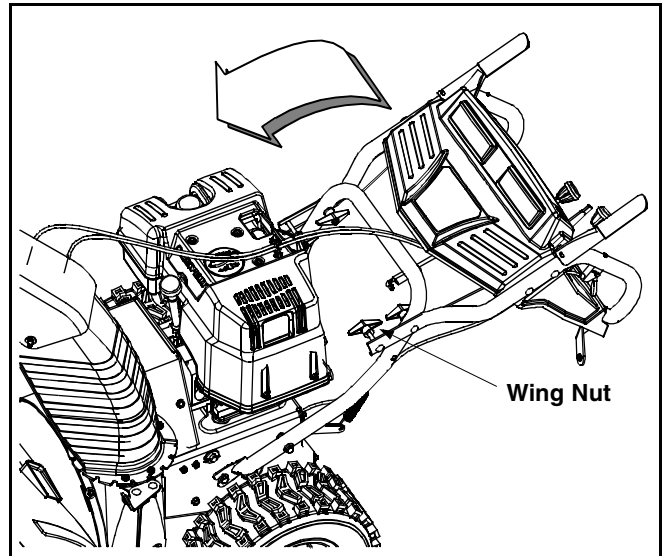

Figure 2
- Remove the **lower** plastic wing nut, cupped washer and carriage bolt from each side of the lower handle. See Figure 2.
- Pivot the upper handle assembly forward until it locks over the lower handle. See Figure 2.